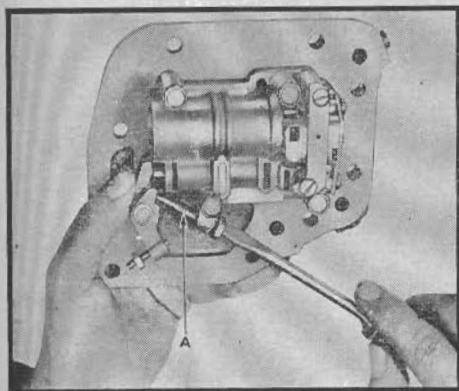

Fig. 48 Setting (1) of throttle valve inner lever adjustment. 1953-59
1. Rotate the throttle valve inner lever until it just contacts the face of the detent valve. Hold the lever in this position and turn adjusting screw "A", Fig. 48, until it just contacts the flat surface of the step in the lever. Back off one complete turn and lock in this position by tightening the lock nut securely.